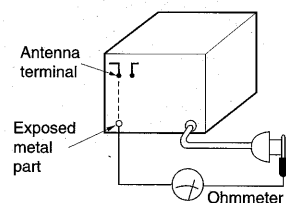
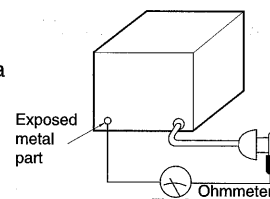

Fig. 1
Fig. 2
3. Measure the resistance value with ohmmeter between the jumper AC plug and each exposed metal cabinet part ,such as screwheads ,antenna ,control shafts ,handle brackets , etc . Equipment with antenna terminals should read between  $3M\Omega$  and  $5.2M\Omega$  to all exposed parts\* .(Fig. 1 ) Equipment without antenna terminals should read approximately infinity to all exposed parts . (Fig. 2 )